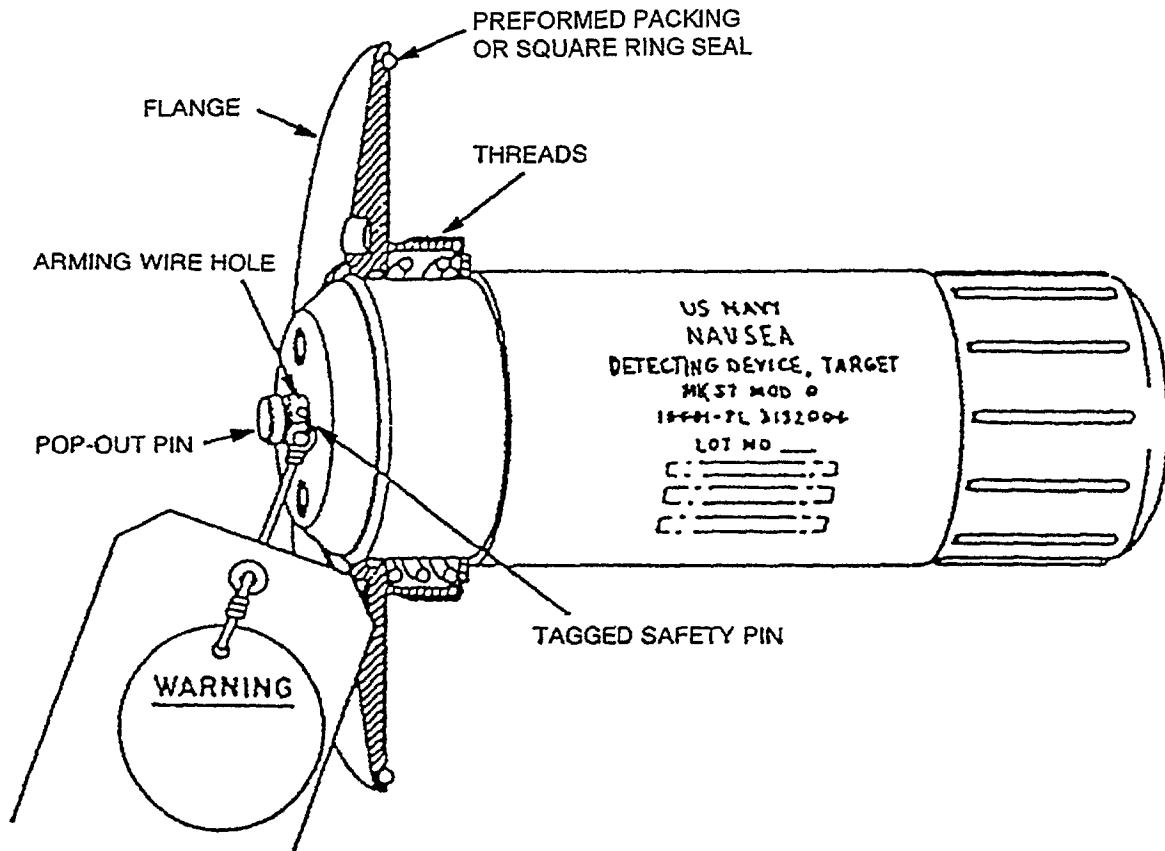

Figure 4-3A. TDD Mk 57 (Battery Installed)
- Clean square ring seal/preformed packing groove on underside of TDD flange (Figure 4-3A) and seal/packing seat on aft end of bomb with cleaning cloth.